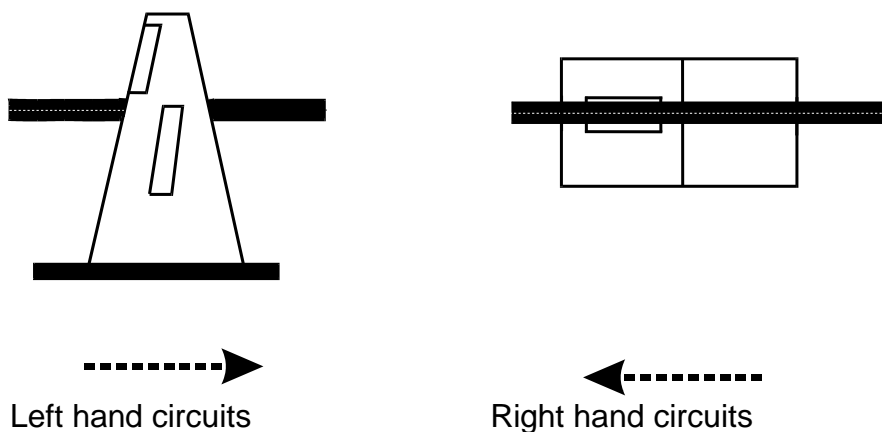

Fig 14. Checking distance out from runway.
- (1) Establish straight and level flight, parallel to the runway at the correct distance out. For left hand circuits the runway should be at the end of your airbrake box. For right hand circuits it should appear midway through your instructor's DV panel. (See fig 14). Select a suitable reference point to assist in maintaining the heading.
- (2) Continue with LAI scan.
- (3) Use full power or airbrake to maintain height within 100 ft of datum.
- (4) Abeam the touchdown point select the approach attitude (65 or 70 kts), close the throttle and re-trim. Identify the
- (5) Identify the Approach Reference Point (**ARP**) on the final approach (approx 45° from track).